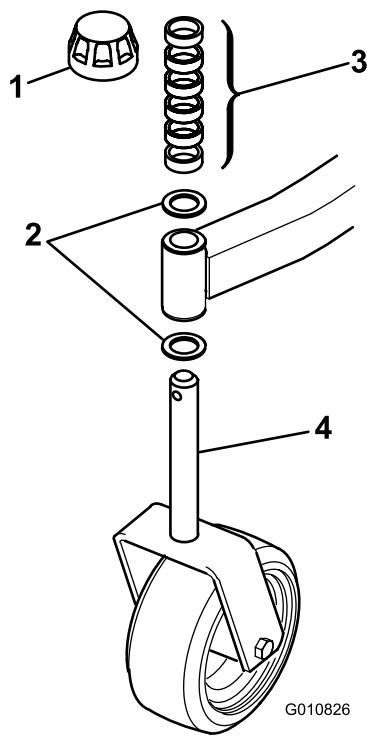
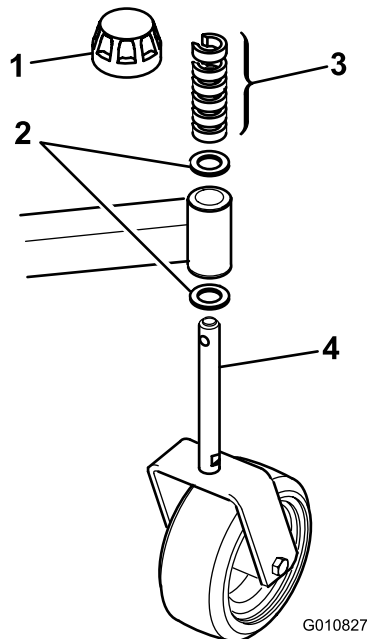

Figure 2
Figure 3
1. Remove the tensioning caps from the spindle shafts and slide off the spacers and thrust washers (Figure 2 and Figure 3).